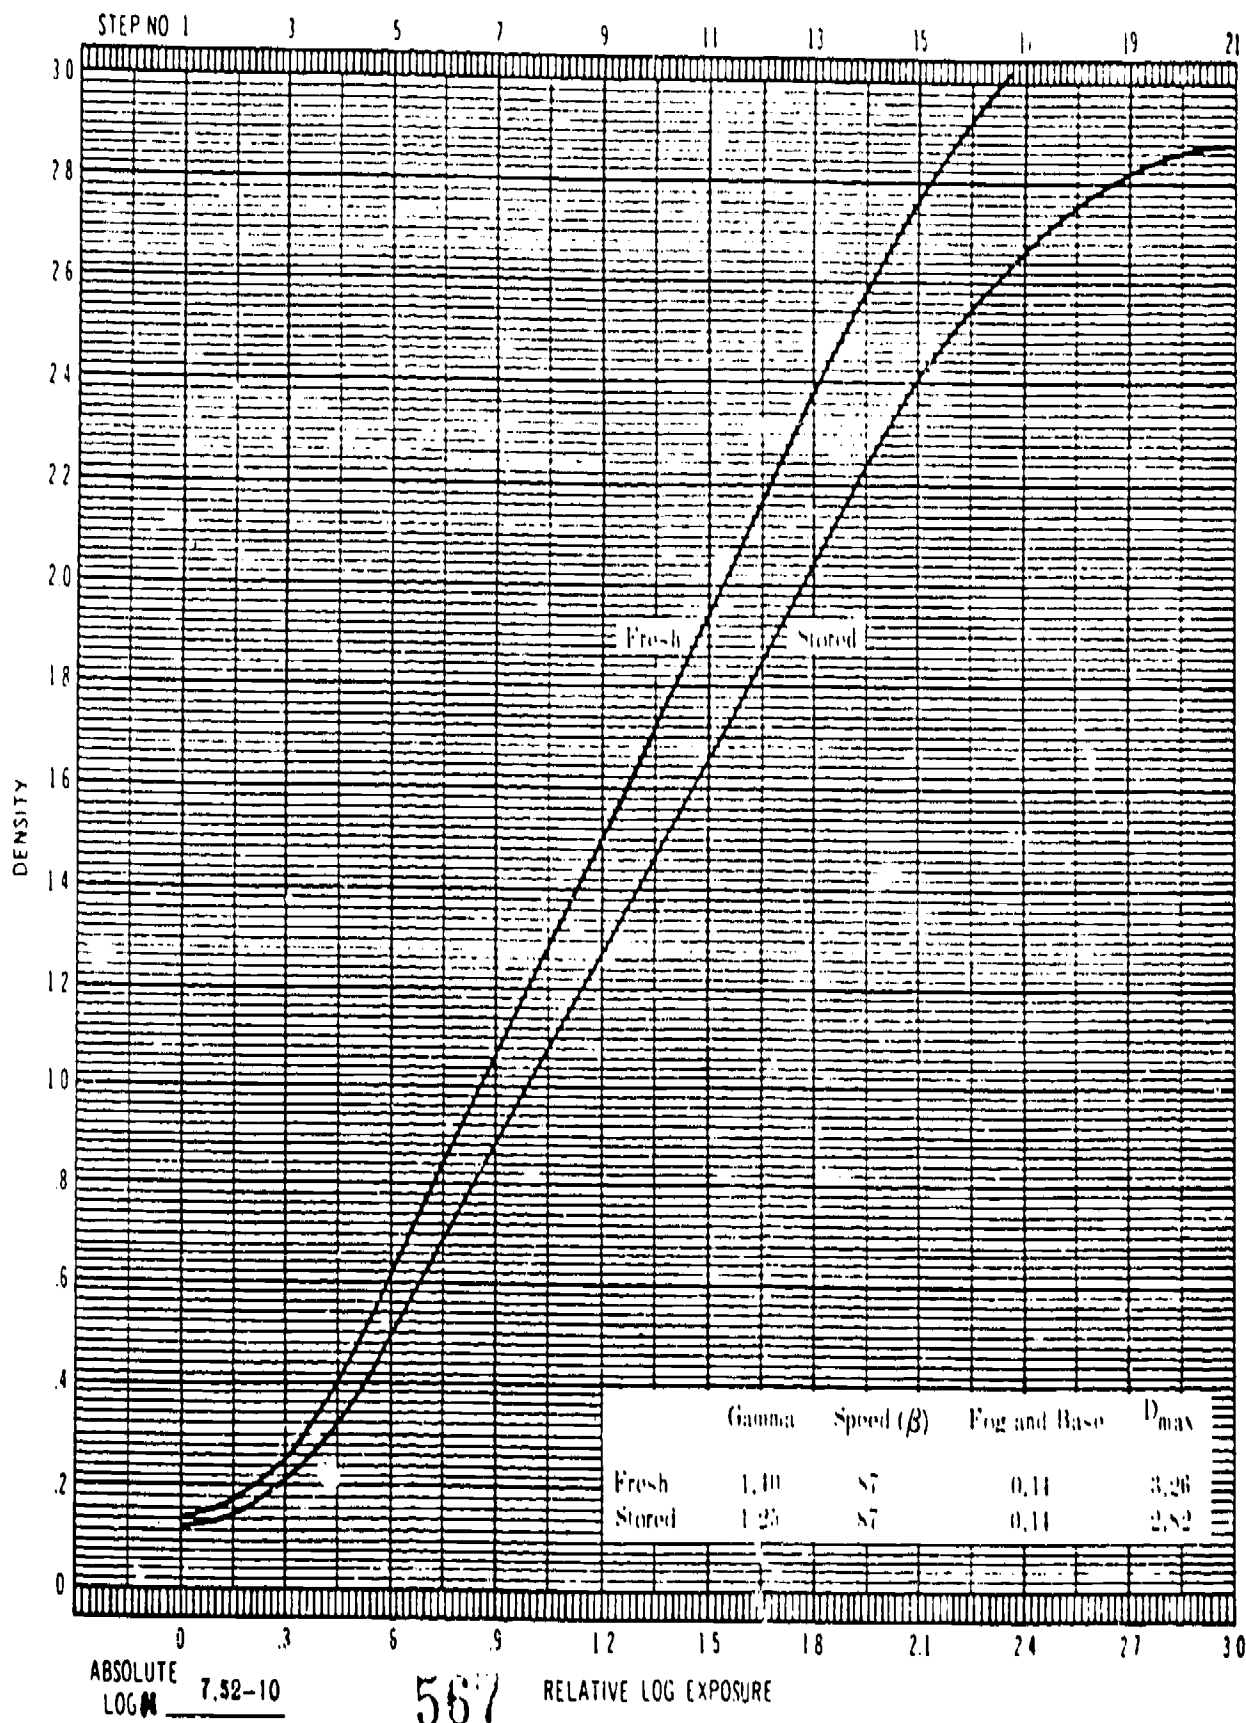

Figure 3-7. One-month storage of solution (Phenidone-Glycin).
7. In figure 3-7, what was the most seriously affected property of the developed film?